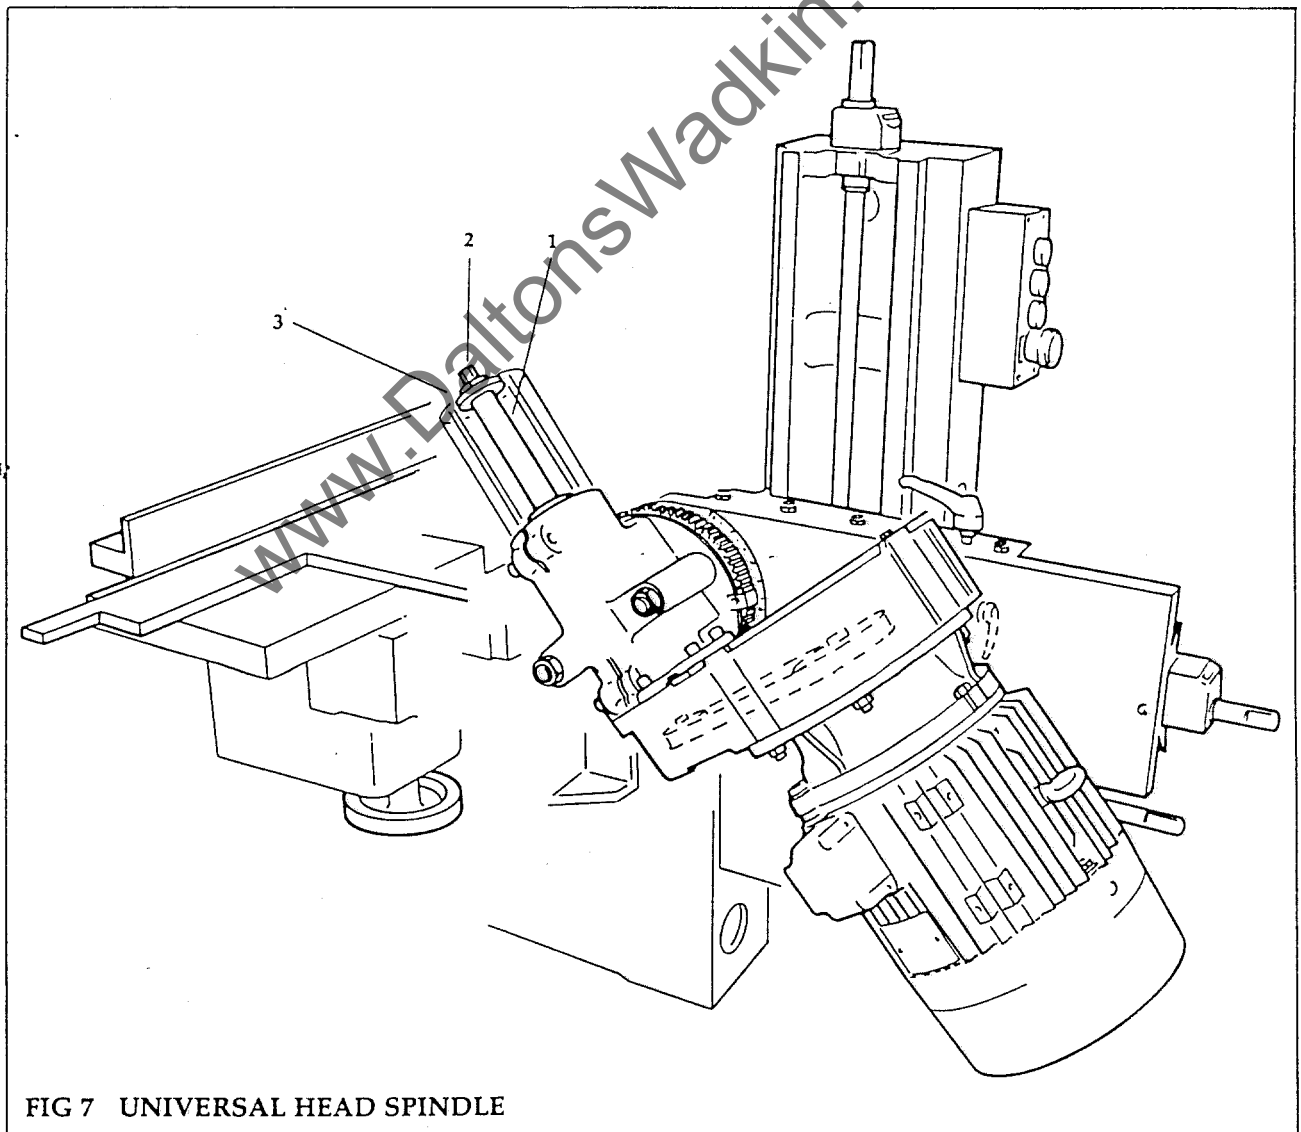
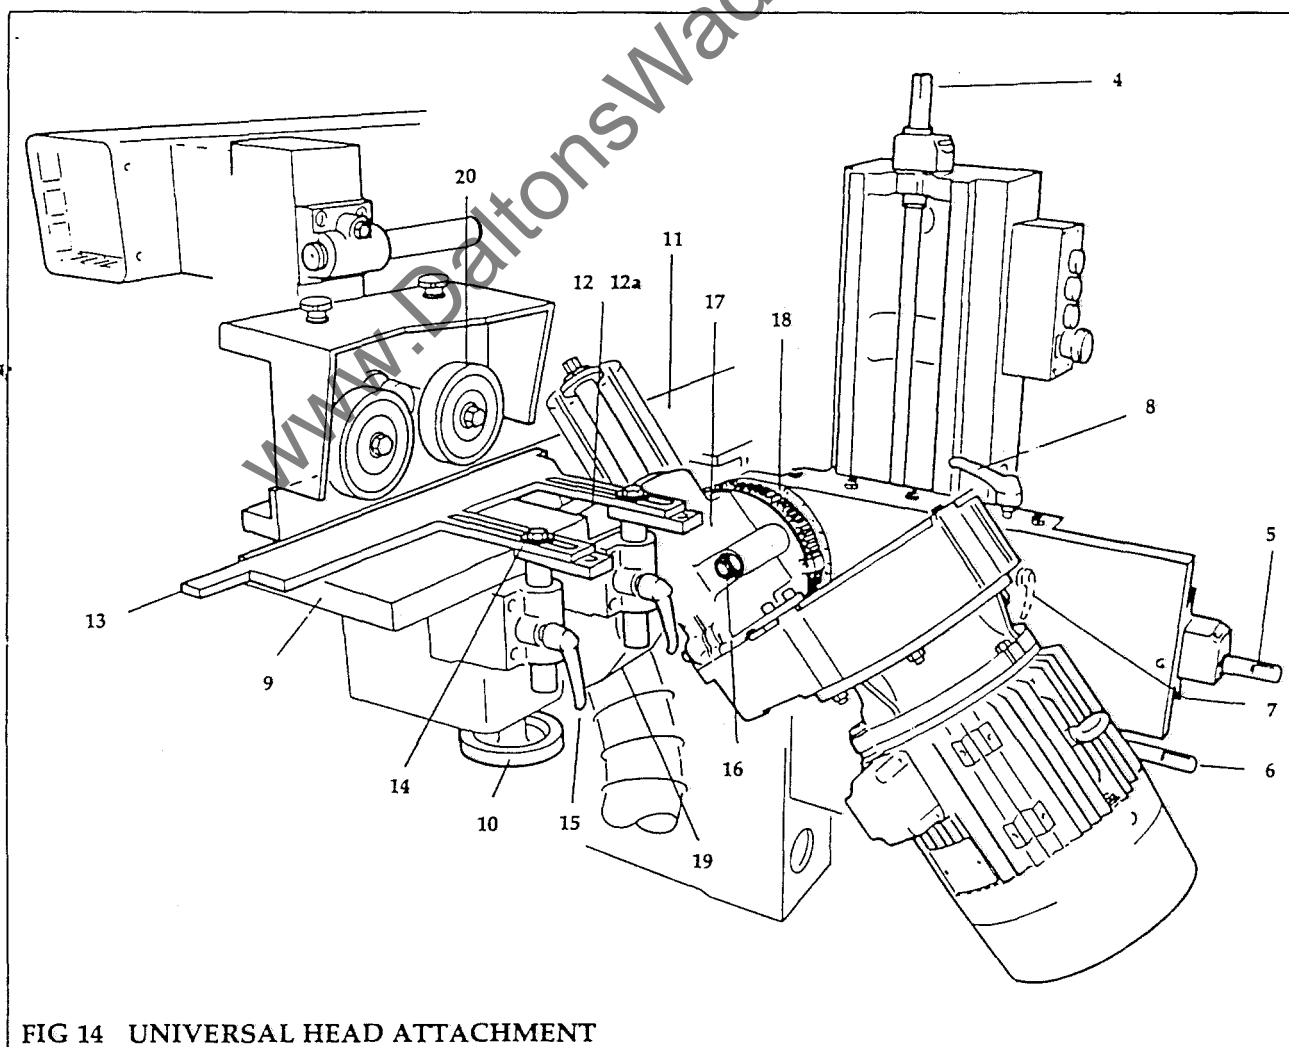
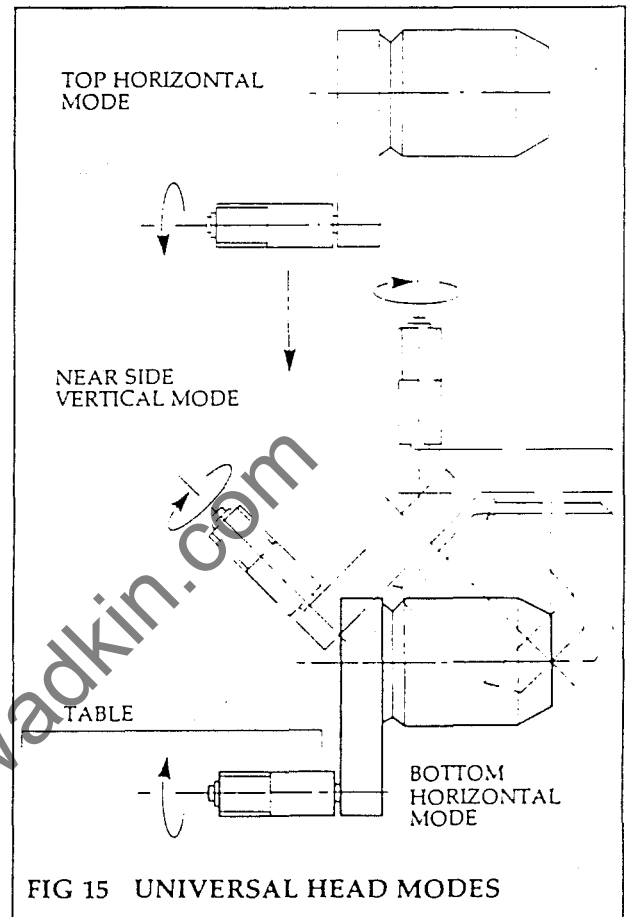
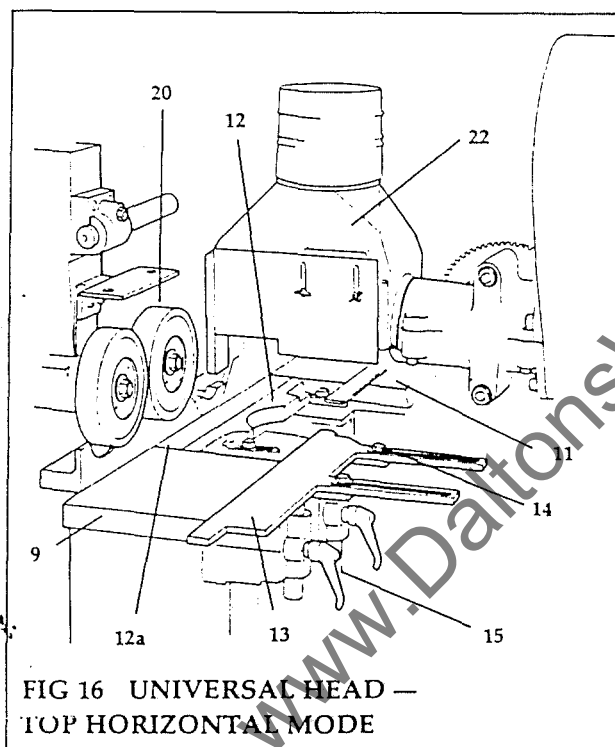

FIG 7 UNIVERSAL HEAD SPINDLE
FIG 14 UNIVERSAL HEAD ATTACHMENT
FIG 15 UNIVERSAL HEAD MODES
FIG 16 UNIVERSAL HEAD —
Universal Head (Fig 7) — when fitted
NOTE: In the Bottom Head position always change the cutterblock from the rear of the machine. However, in the Vertical mode it is possible to change the cutterblock from the nearside, using a similar procedure. (See Fig 15 for Universal Head modes). Fig 7 shows the head in the near-side vertical (angled or canted) mode.
- (1) Inch timber through machine and set side guide (13) by slackening screws (14) and sliding guide laterally. Retighten screws, (see Fig 14).
- (2) Adjust feed roll height as for Second Bottom Head.
Universal Head Modes (Fig 14, Fig 15, Fig 16)
NOTE: Check direction of spindle rotation before commencing work (see Fig 15).
- (5) Set guide (13) for width and height using setscrews (14) and locking handles (15) (see Fig. 14).
In Top Horizontal Mode (Fig 16)
The universal head in the nearside vertical mode will accommodate a cutterblock having a cutting circle of 125 to 180 mm. The spindle can be positioned at any angle between vertical and horizontal as required (see Fig 14), using the wormdrive shaft (6). In addition, the cutter can be positioned vertically and laterally in relation to the workpiece, in increments of 0.1mm, using the traverse screws (4) and (5).